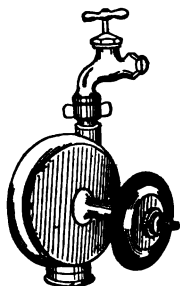

FIG. 73. — Water motor.
**78. Water motors.** In cities where water is supplied under considerable pressure, it may be used to run sewing machines, small polishers, grinders, lathes, etc., by means of a water motor. A simple form is shown in figure 73. The stream of water is made to pass through a small opening at high velocity and to strike against some blades or buckets on the rim of a wheel. The wheel is inclosed in a metal case, from which the water flows away to the drain-pipe. The impact of the water against the blades turns the shaft, to which the machines to be driven are connected either directly or by belts.